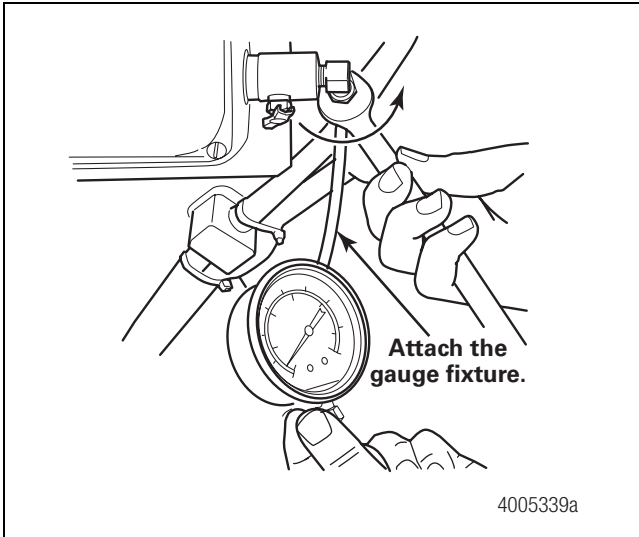
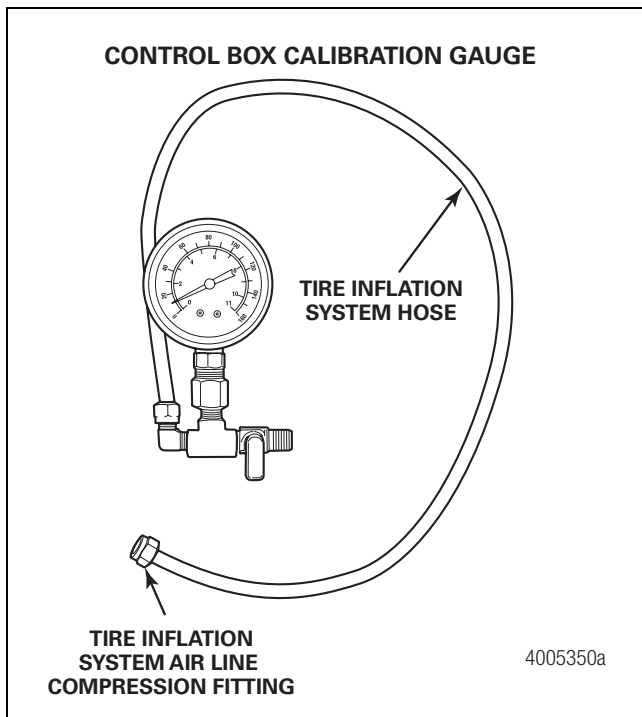

Figure 3.13
Figure 3.14
4. Attach an air pressure test gauge fixture to the outlet port of the control box. Figure 3.13. Refer to Section 8 for information on building an air pressure test gauge fixture. Figure 3.14.